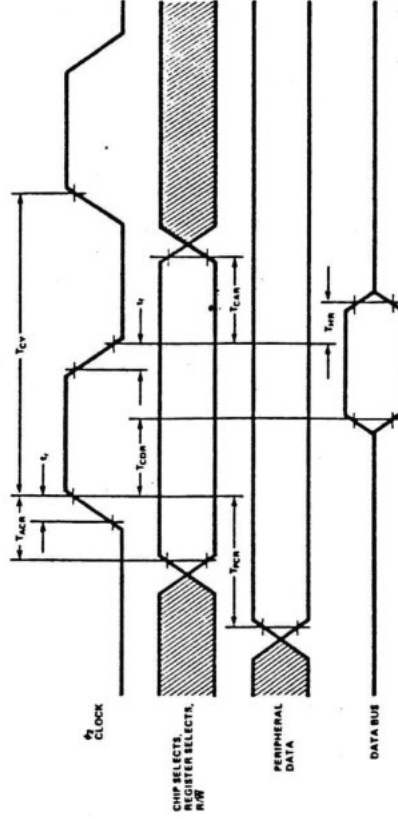

Figure 3. Read Timing Characteristics
**READ TIMING CHARACTERISTICS (FIGURE 3)**